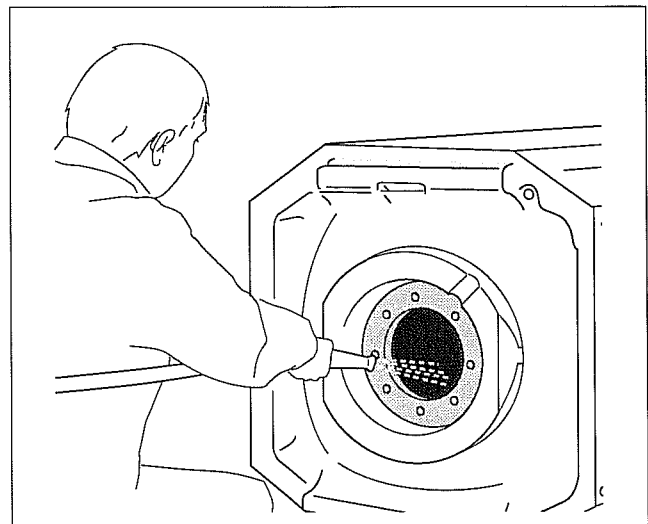

Fig. 16 Spraying of tank interior
- Spray the interior surfaces with a high pressure cold water stream (ca. 58 – 72 psi) (Fig. 16).